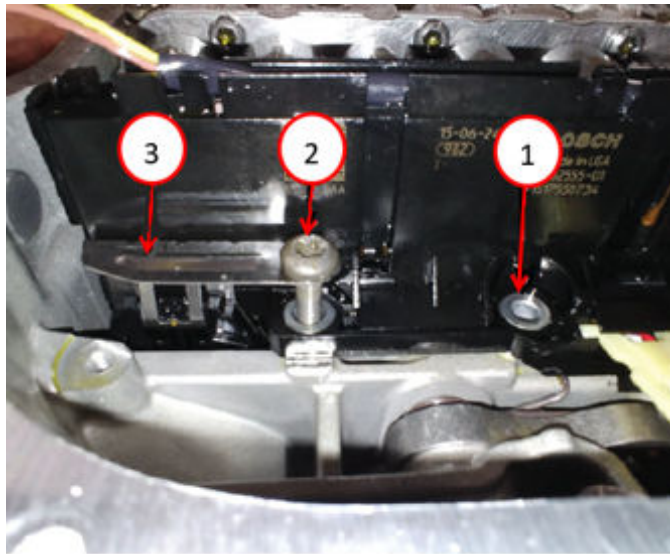

Fig. 44
67. Latch the electrical connector lock by pushing down Fig. 44.